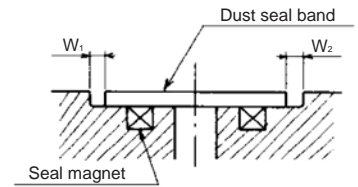

Fig. 5
- Masking tape (black) of dust seal band for replacement should be removed and applied the grease wholly as Fig. 4(Note 1) after supplementary process of Fig. 5. (Length of dust seal band is defined as regulated. But check the length again before mounting for shipping.)
Set the dust seal band on the Cylinder tube with equivalent clearance  $W_1$  and  $W_2$ . (Fig. 5) Another work is same way as above 4.